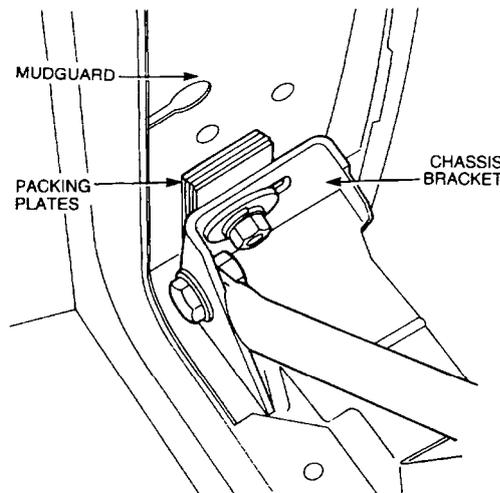

Figure 97 Right Mudguard Mounting
- i. Remove the nut, washers and bolt securing the mudguard to the chassis bracket and remove the packing plates, if fitted (Figure 97).
- g. Install the packing plates (if required) between the mudguard and chassis bracket (Figure 97), and fit the bolt, washer and nut.